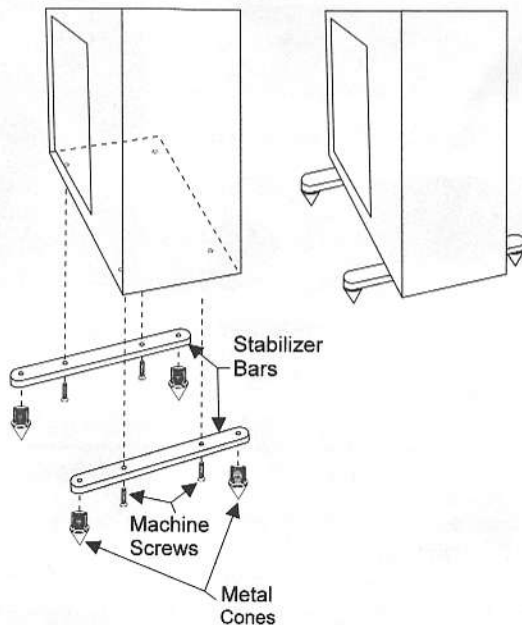

fig. 1
To begin assembly, unpack the SpikeKit and inspect all the parts. The SpikeKit includes: (2) aluminum stabilizer bars, (4) aluminum cones, (4) stainless steel allen studs, (1) allen head wrench, (8) Phillips head machine screws and (4) rubber feet. **Important: We recommend installing only the stabilizer bars until final placement of the speakers is determined. This makes the speakers much easier to move.** Carefully turn the speakers upside down, and attach the stabilizer bars with the Phillips head machine screws, using a #3 Phillips screwdriver (see fig 1). When installing the bars onto the bottom of the speaker, use your fingers to start all the machine screws in their holes before tightening them down. This will prevent cross-threading.